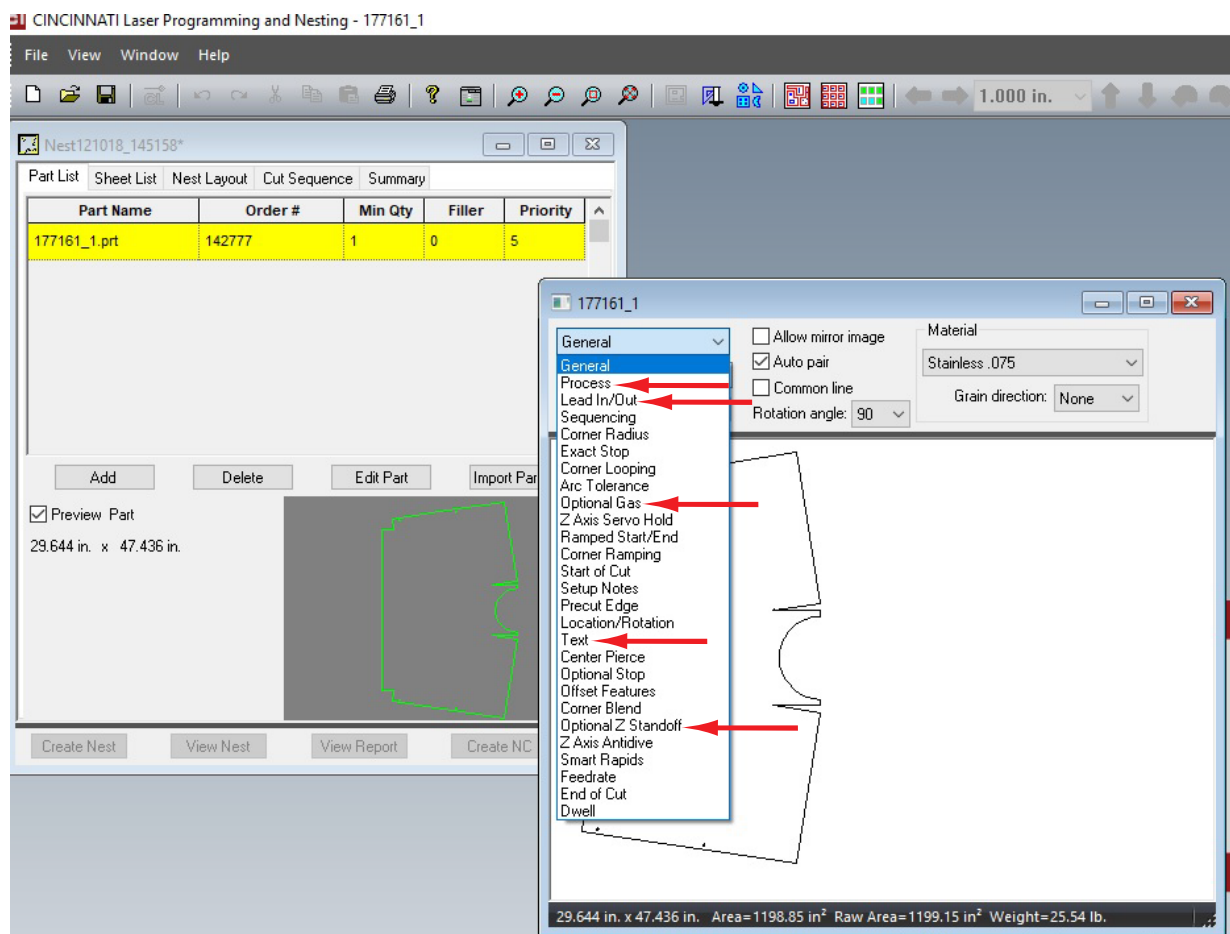

Fig.10
Your selection will now be displayed in the “Materials” box for that part as shown in Fig.10.
- 14) The first thing in the list you will check is the "Process" from the Process window. So scroll down the window to highlight and click on the "Process" selection. This indicates and or sets if you are cutting with Oxygen or Nitrogen or another function of the Process List that you want the laser to do while tracing the geometry. It will be the next item in line of the drop-down as shown in Fig.10 below for this illustration. Your menu line-up may be different, but the selection is the same.